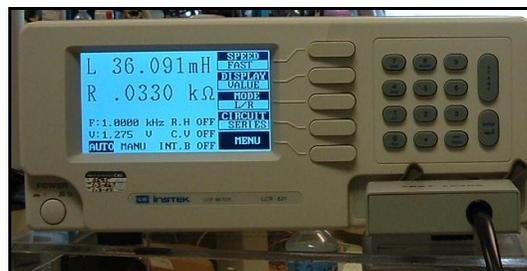

Figure 2—Measuring the Q phase and D phase Inductances.
2. Motor Ld & Lq Inductance—Attach the LCR meter to two phases of the motor, as shown in Figure 2. Change the position of the rotor, seeking out the maximum and minimum value of the inductance. (The rotor should be stationary and the inductance value stable to get a good measurement.) Repeat for the other combinations of phases. Average the maximum values from each phase combination and then divide by two to calculate the value of Lq. Repeat this calculation with the minimum values to get the value of Ld.